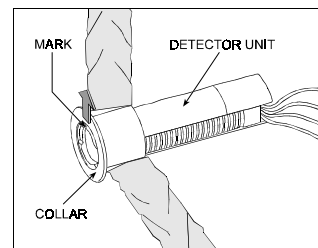

Figure 1 - Installation with Collar, Models SPY 1, SPY 2
the detector and adjust its position so that the front of the detector and the collar are aligned (Fig. 1).
5. Orient the detector unit so that the mark on the front faces up (Fig. 1).